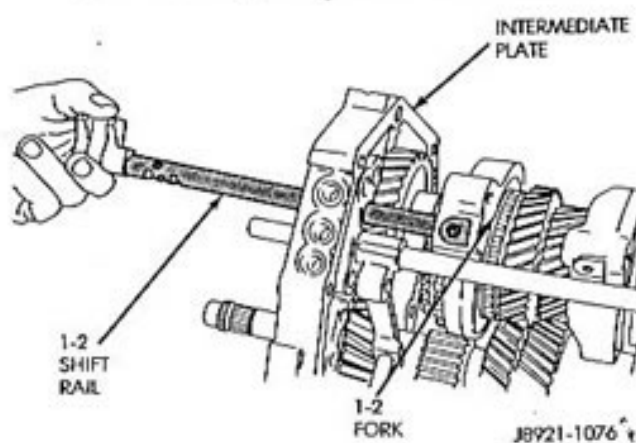

Fig. 46 Removing 1-2 Shift Rail
- (6) Remove the 1-2 shift rail from the shift fork and intermediate plate (Fig. 46).